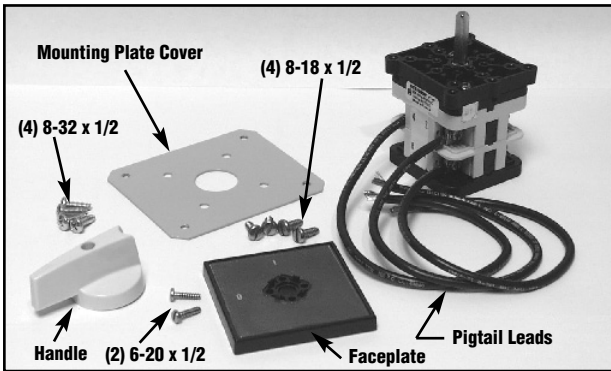

Figure 3
3. The disconnect switch assembly (Figures 3 or 4) consists of a mounting bracket, disconnect switch, mounting plate cover and self tapping screws.